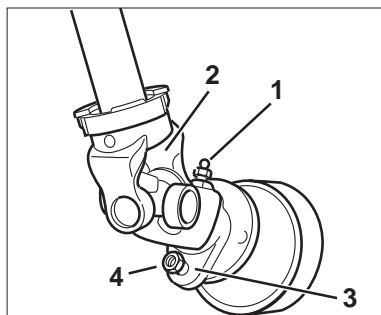

Fig. 5.4
- Slacken grease nipple (Fig. 5.4/1) and push on pto shaft (Fig. 5.4/2).
- Affix connecting yoke (Fig. 5.4/3) with shear bolt (Fig. 5.4/4).
- Tighten grease nipple (Fig. 5.4/1).